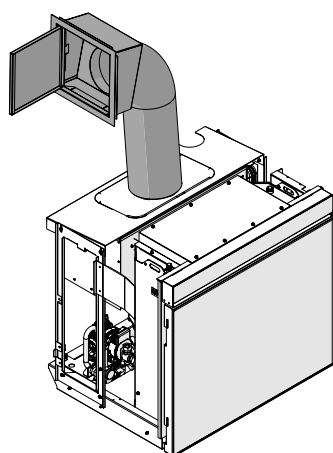

Fig. 41
- Loading system with flexible metal pipe and loading door (**Fig. 41**).